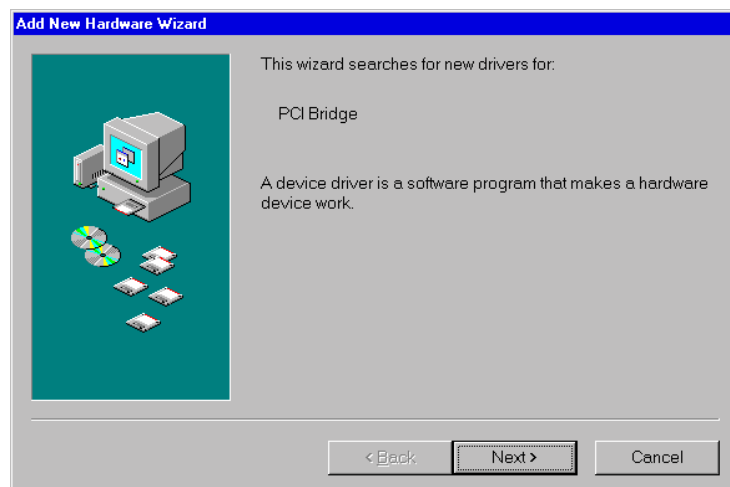

Fig. 7. Windows Driver Installation Wizard.
1. After Windows notifies you that it has found a new device, the Windows driver installation wizard will start up (Fig. 7). Click on **Next**.